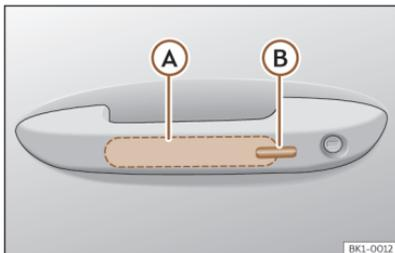

Fig. 83 Driver door lever: sensor surfaces.
>>> **Fig. 83**
- Touch the sensor surface >>> **Fig. 83 (B)** on the outside of the door handle. All turn signals flash once.
- Within 5 seconds, touch the sensor on the outside of the door handle >>> **Fig. 83 (B)** once. Do not grip the handle while doing so. This temporarily deactivates the Keyless Access system.